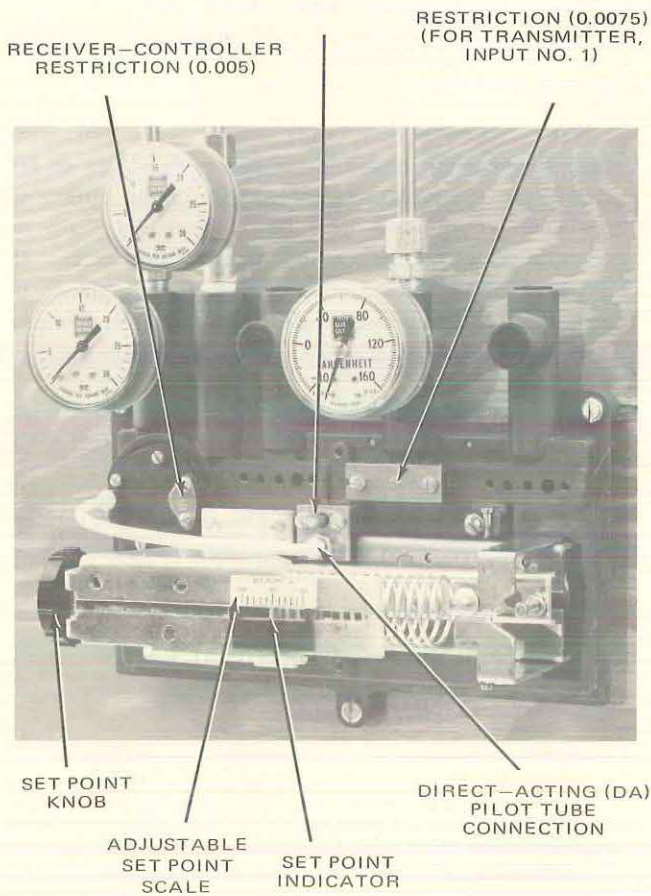

Figure 2
1. Cut the pilot tube with end cutter on 45° angle as close to the DA pilot tube connection as possible. See Figure 2, for tube location.
1. Remove Receiver Controller restriction cover plate, restriction, and two gaskets (see Figure 2 for location).
In cases where the transmitter is more than 200 feet from the receiver-controller or where the input signal is the output pressure of another controller or thermostat except TK-5000 series, the restriction for that input must be removed and the passages must be blocked. To block these passages, proceed as follows. Refer to Figure 2.